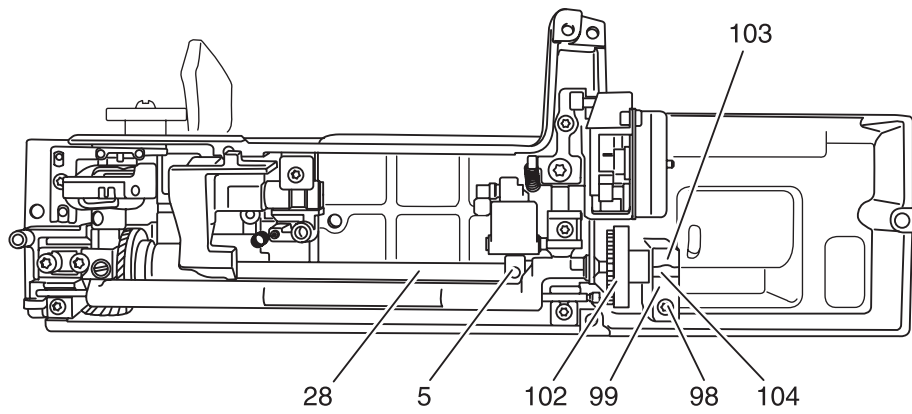

Fig. 66
- Lift complete hook driving shaft 28 out of the lower right calotte bearing 103 as far as it will go (fig. 66).